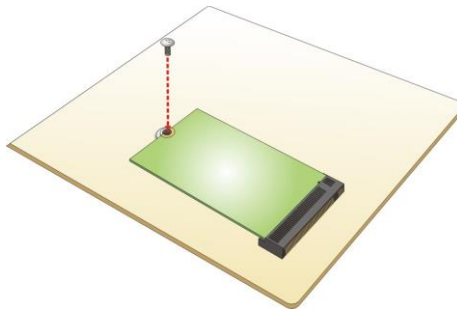

Figure 3-6: Securing the WLAN Module
Step 4: Secure the WLAN module with the retention screw previously removed (Figure 3-6).